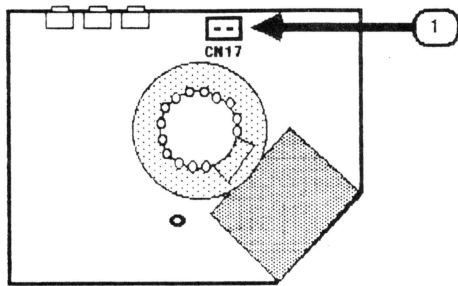

FIGURE 20
- a) CN17 (CRT socket board) -- Figure 20, #1